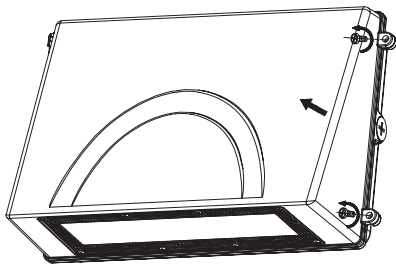

Fig 1
1. Disassembly the FWP by unscrewing the 2 screws on right side of the fixture, and put aside the front housing on a flat surface (Fig 1).